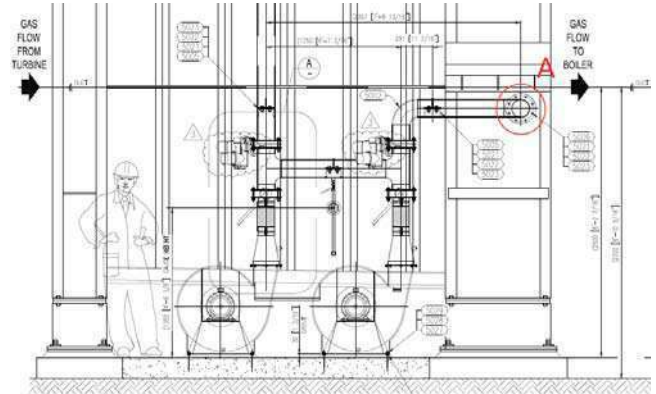

Fig.1 – view on the seal air side of the diverter damper
The diverters for ABPR1/2 were delivered late in 2012 and commissioned in 2013. In early 2017 an issue was reported whereby cracks had developed around the seal air entry flange at the HRSG side of diverter dampers 11 & 12, as marked "A" in Fig1 below.
- Temporarily support the horizontal seal air pipe 13-5002 (see 8790-13-5000) and unbolt it from the seal air flange on the diverter at location "A" in Fig.1. Take care not to lose the fasteners or gasket, as they will be re-used for installation later.